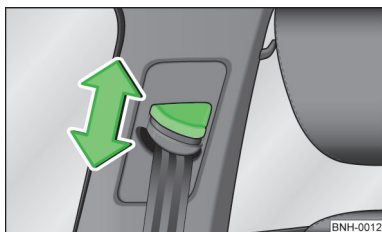

Fig. 163
- Press the seat belt height adjuster and move up or down in the desired direction » Fig. 163.